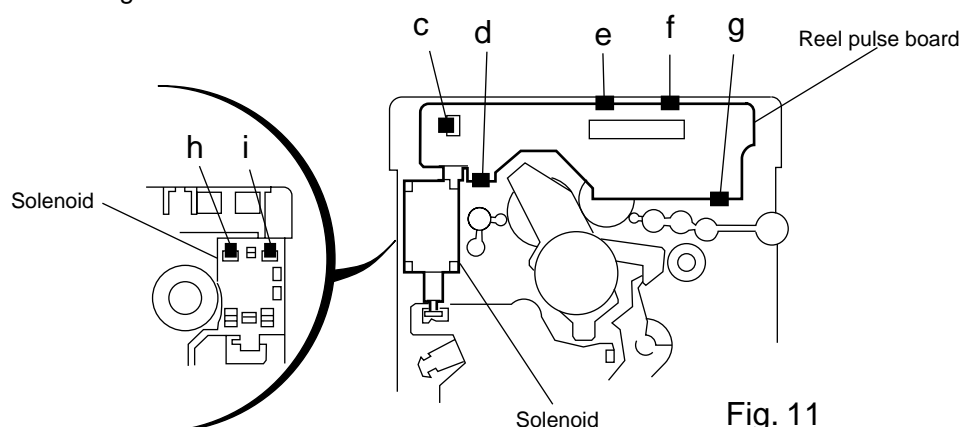

Fig. 11
■ Removing the Reel Pulse P.C. Board and Solenoid (See Fig. 11)